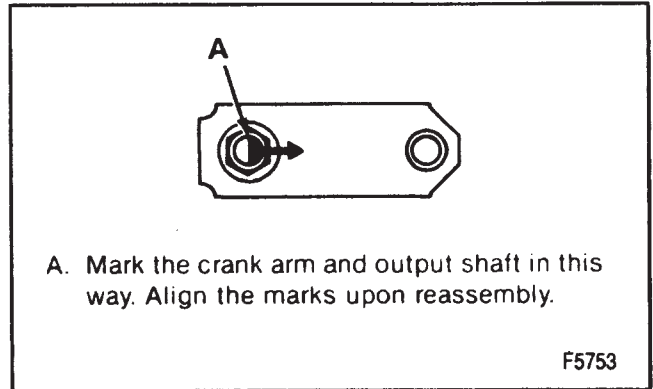

Figure 17—Crank Arm Alignment
2. Screw (105).
3. Circuit board cover (104).
4. Printed circuit board (103).
5. Housing cover (77).
6. Prevailing torque nut (93).
- Mark the output shaft of the gear assembly in relation to the ball crank arm, as shown in figure 17.
7. Crank arm (94), shaft seal (95), retaining ring (99), thrust collar (96), and flat washer (97).
- To prevent scoring of the housing (77) bearing, check the shaft of the gear assembly (79) for burrs at the retaining ring groove and crank arm seat. Remove any burrs if found.
8. Gear assembly (79) and washer (80).
9. Spring washer (107), washer (82), intermediate gear (86), and washer (80).